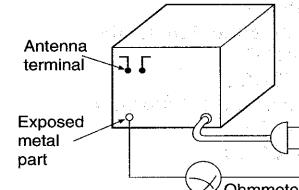
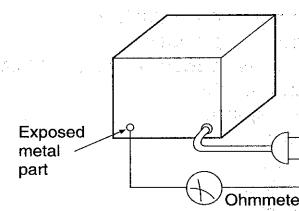

Fig. 1
Fig. 2
3. Measure the resistance value with ohmmeter between the jumper AC plug and each exposed metal cabinet part ,such as screwheads, antenna ,control shafts ,handle brackets , etc . Equipment with antenna terminals should read between 3MΩ and 5.2MΩ to all exposed parts\* .(Fig. 1 ) Equipment without antenna terminals should read approximately infinity to all exposed parts . (Fig. 2 )